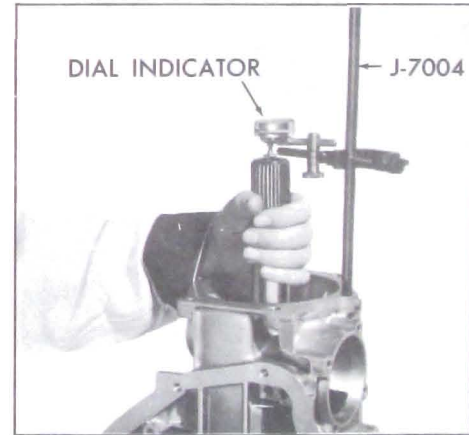

Figure 5-544
b. Mount the dial indicator, J-8001 on the rod and index with the end of the output shaft. See Figure 5-544.